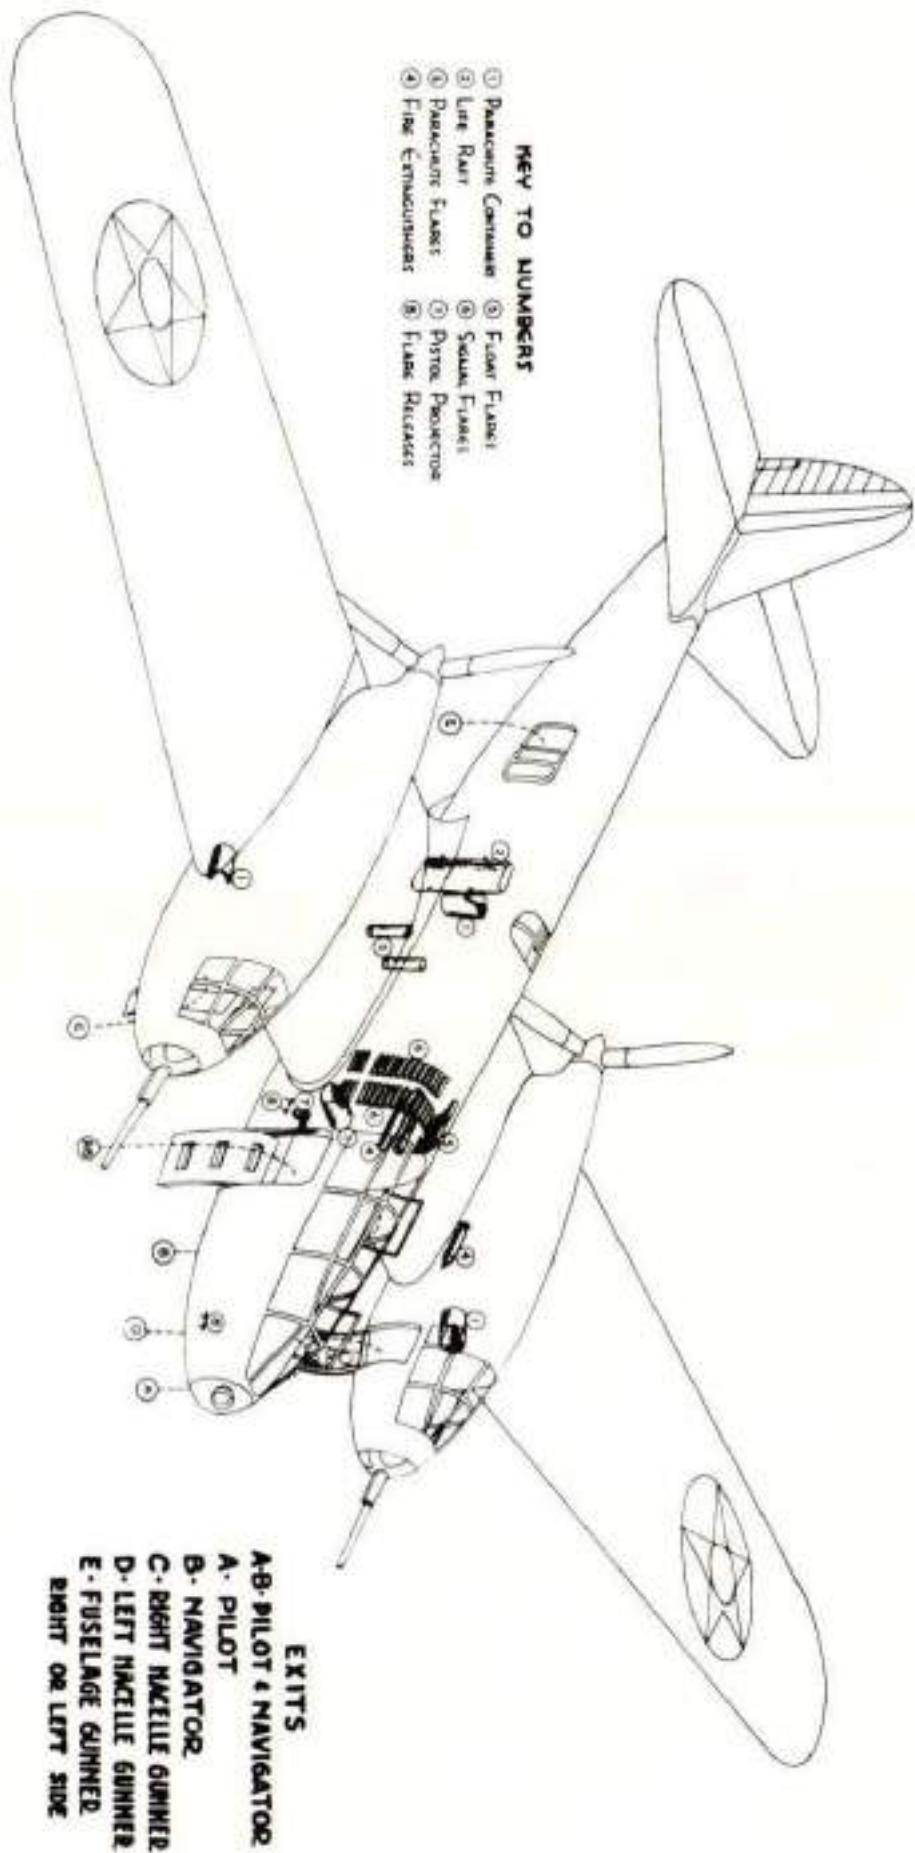

FIG. 2 - EMERGENCY EQUIPMENT & EXITS.
(3) Fuselage Gunner's Seat: The fuselage gunner's bench hinges on the right side and folds upward to stowed position. A release lever is located on the left side. A canvas seat back on the left side of the airplane is removable and is stowed on the right side. The seat cushion is the gunner's life preserver.
(4) Nacelle Gunner's Seat: The nacelle gunners are provided with folding canvas seats which are stowed in vertical position on front side of engine firewall. The seat cushion constitutes the nacelle gunner's life preserver.
(5) Emergency Equipment and Exits: (a) General: The emergency equipment and exits are illustrated in Figure 2.